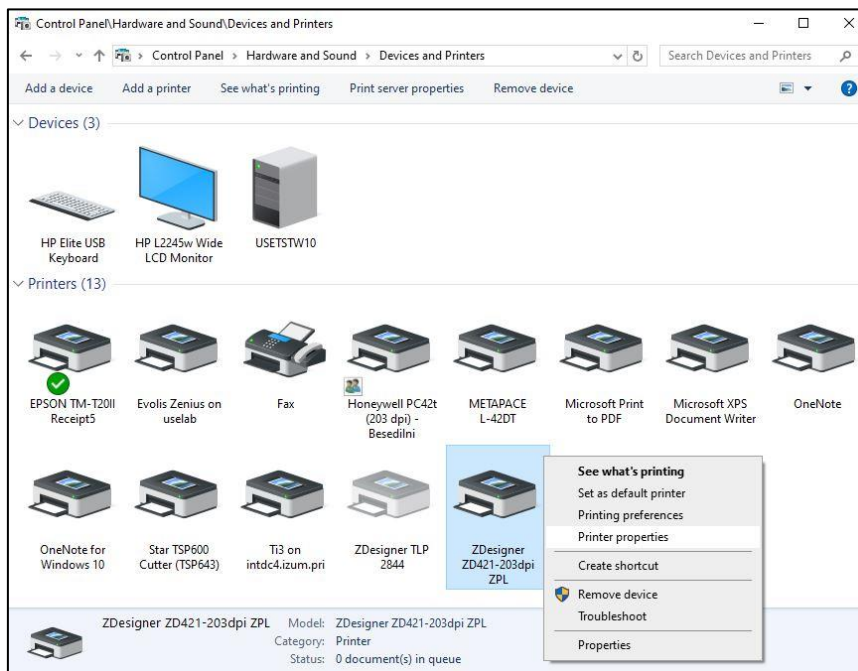

Figure 2: Control panel, devices and printers
- Figure 2: Control panel, devices and printers2
Once the driver is installed, the settings have to be adjusted before you start printing labels. This can be done in the **Control Panel**, where you select **Devices and Printers**. All the available printers will be shown on-screen. Select the *ZDesigner ZD421-203dpi ZPL* printer and right-click it. Select **Printer properties** from the options (see Figure 2).